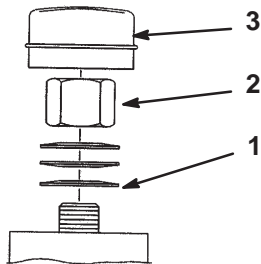

Figure 48
2. Remove dust cap from castor and tighten lock nut (Fig. 48).
3. Tighten until spring washers are flat and then back off a 1/4 turn to properly set the pre-load on the bearings (Fig. 48).
**Important** Make sure spring washers are installed correctly as shown in figure 48.